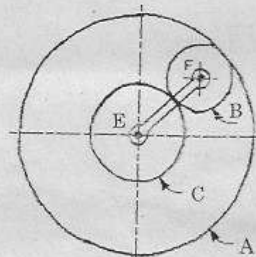

Fig Q. 16 (b)
- (b) An epicyclic gear consists of three gears A, B and C as shown in Fig Q. 16 (b). The gear A has 72 internal teeth and gear C has 32 external teeth. The gear B meshes with both A and C and is carried on an arm EF which rotates about the centre of A at 18 rpm. If the gear A is fixed, determine the speed of gears B and C.